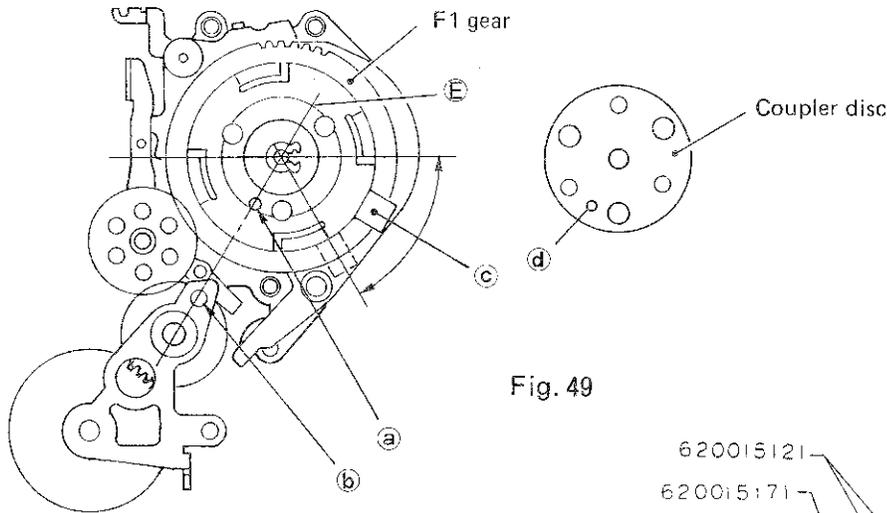

Fig. 49
3. 1) When installing F1 gear, engage the F1 gear as the (a) hole is aligned with (b) on the line (E). (Fig. 49)
- 2) Set the (c) plate in allowable range with arrow mark. (Fig. 49)